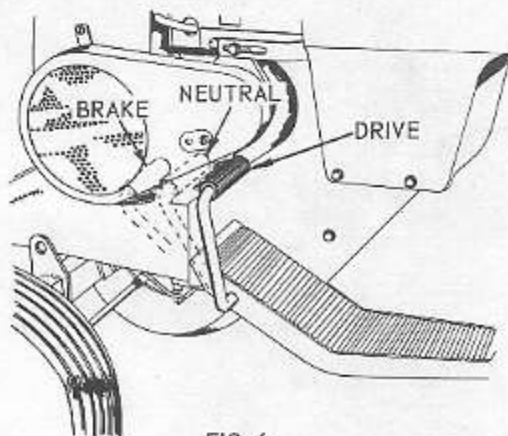
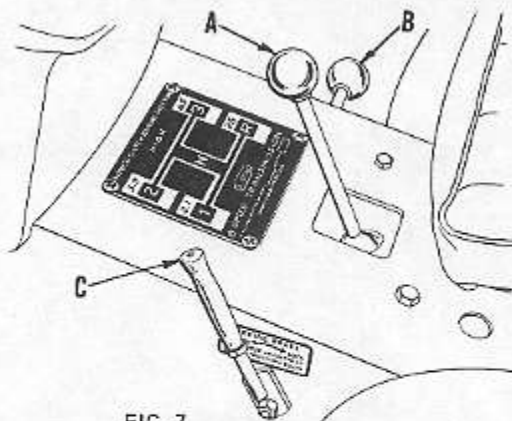

FIG. 6
FIG. 7
2. The transmission (transaxle) gear shift lever (A), is located at front, center of seat.
- a. The gear shift level selects the FORWARD speeds, the NEUTRAL and REVERSE speeds. Refer to Fig. 7.
3. The high-low range (B), is located on R.H. frame side just forward of R.H. rear fender. The high-low range lever has 3 positions, up for high-range, center for neutral, and down for low range. There are two neutral positions in transmission, one on the gear shift lever, and one on the high-low range lever. Both levers must be engaged for tractor to operate. Place gear shift lever in neutral position for starting tractor. Place high-low range lever in neutral for easier pushing of tractor or when tractor is being towed.
4. To engage park brake (C), push foot pedal all the way down, pull backward on park brake lever and release foot pedal. Push lever forward to release brake
- a. Transmission gear shift lever (A, Fig. 7), is in NEUTRAL.
- b. The high-low range lever (B, Fig. 7), is in NEUTRAL.
3. Depress foot pedal, refer to Fig. 6, to neutral position. THIS IS ESPECIALLY HELPFUL IN COLD WEATHER. Release park brake (C, Fig. 7). Continued on page 8.